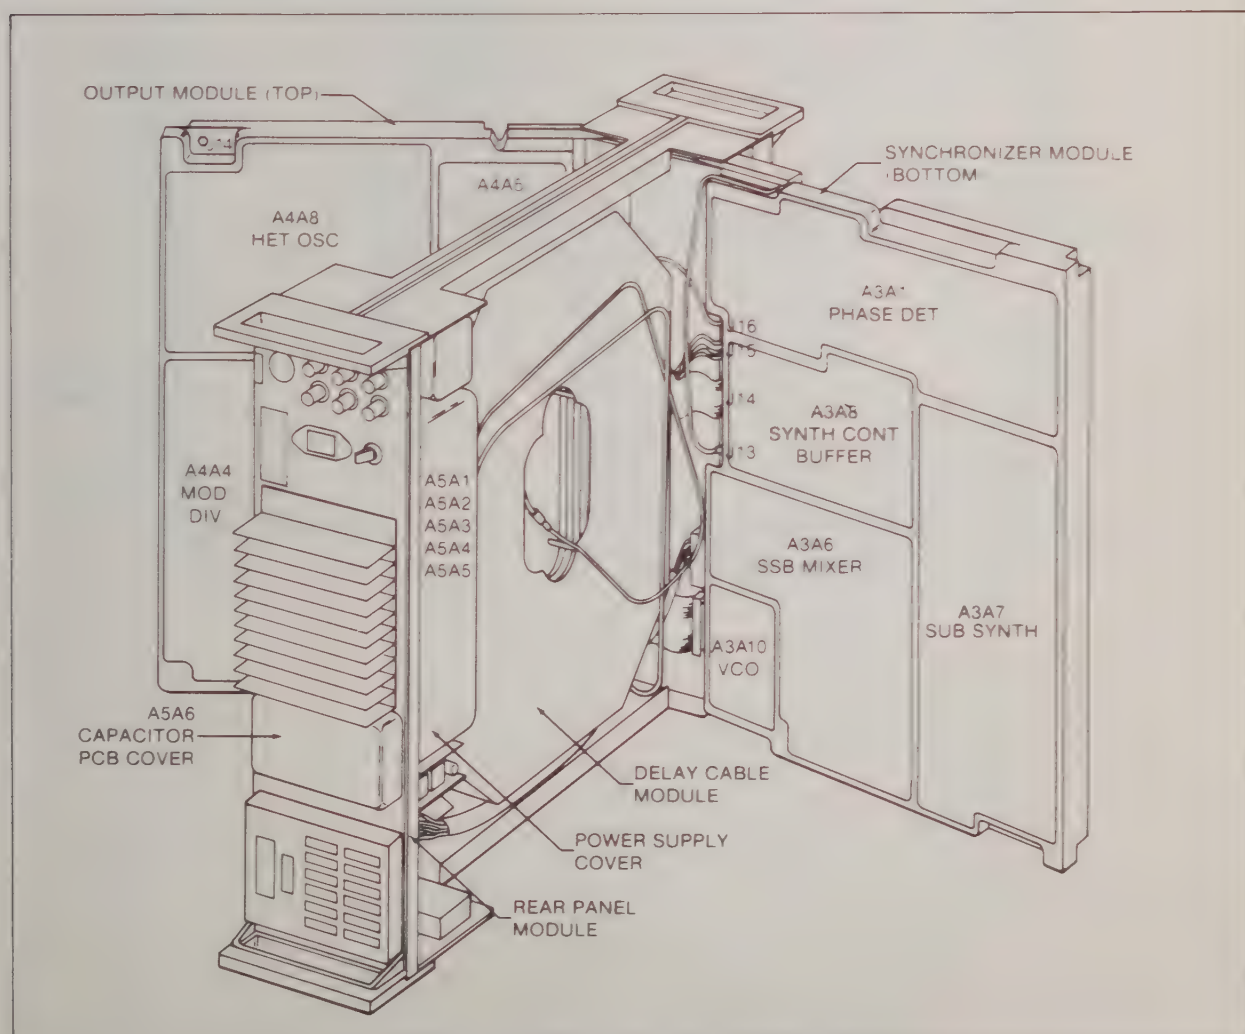
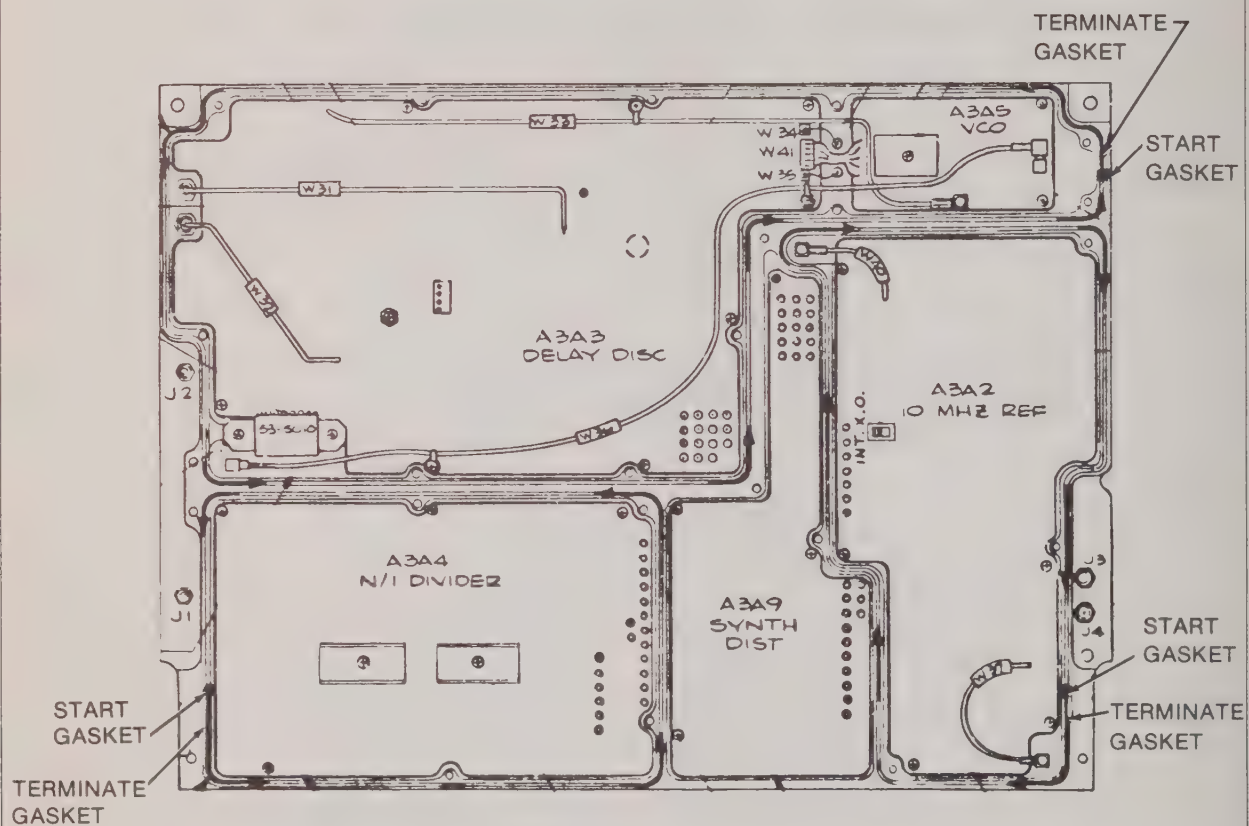
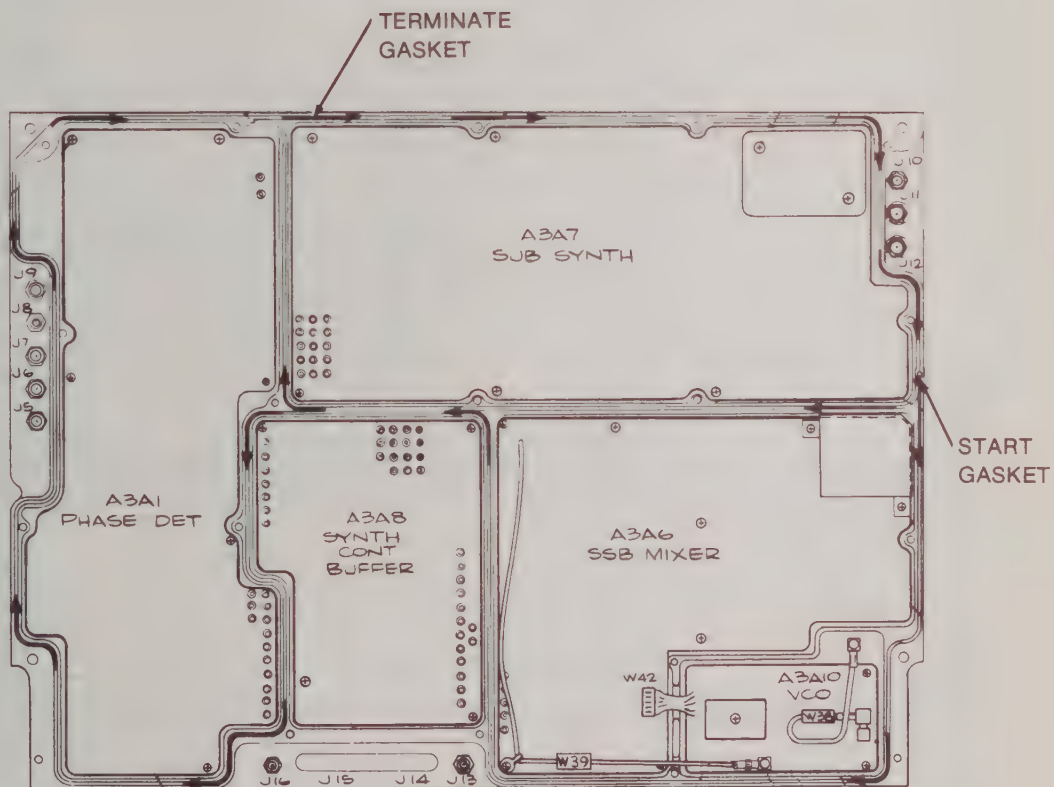
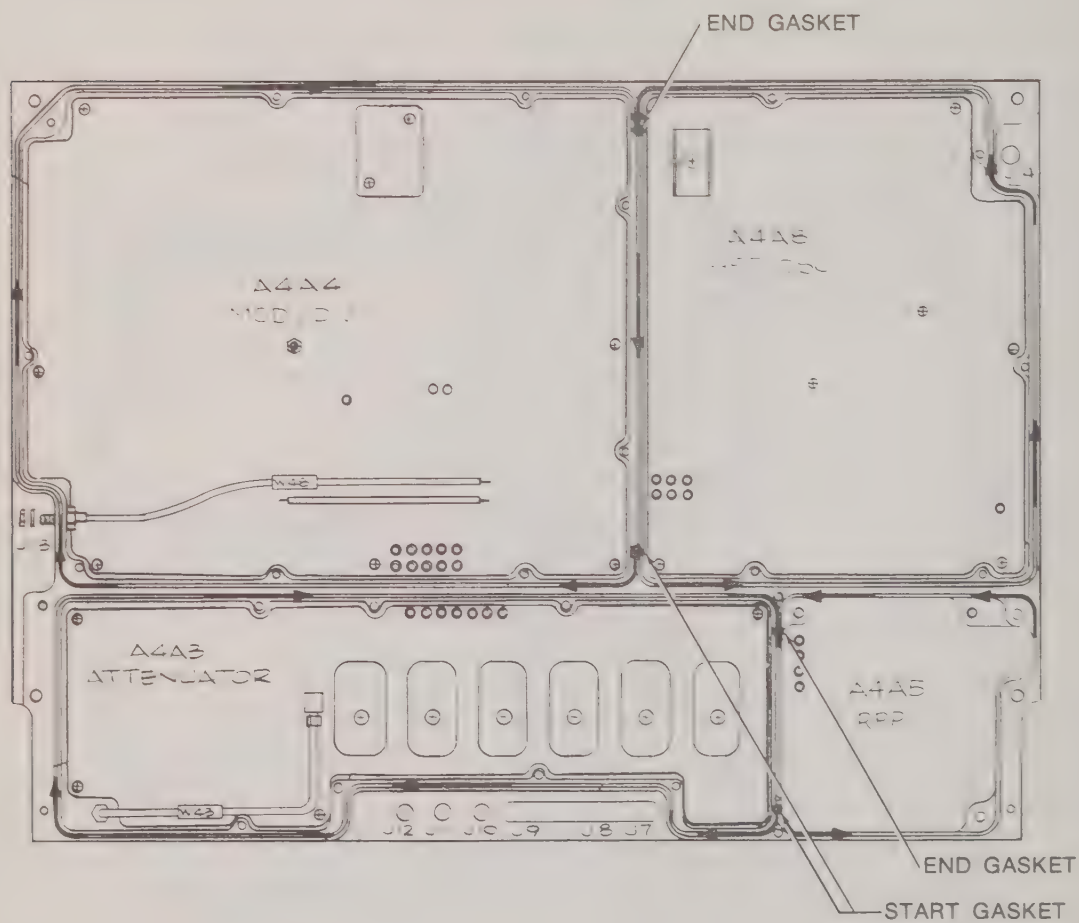

Figure 3-1. 6070A/6071A Opened for Maintenance
Figure 3-2. Top Synthesizer Module
Figure 3-3. Bottom of Synthesizer Module
Figure 3-4. Top of Output Module
3-4. The locations of the major assemblies of the 6070A/6071A are illustrated in Figure 3-1. The synchronizer module and the output module swing out from the center cable assembly. Circuit boards are located on each side of the synchronizer module and output module. Figures 3-2 and 3-3 illustrate the circuit board locations for the synchronizer module, and Figures 3-4 and 3-5 illustrate the circuit board locations for the output module. The 6070A and 6071A can be energized for maintenance purposes when opened up as shown in Figure 3-1.
1. Make sure that the RF gasket is in place. The gasket should start and end as shown in Figure 3-2. Inspect the RF gaskets for damage (areas that are folded over, worn, or pinched).
- a. Start the RF gasket at screw number 13 (Figures 3-2 and 3-6).
1. Make sure the RF gaskets are in place. The gaskets must start and end as shown in Figure 3-2. Inspect the RF gaskets for damage (areas that are folded over, worn, or pinched).
2. If the RF gaskets fall out, replace them as shown in Figure 3-2.
- c. The end of the gasket must continue past (overlap) the beginning of the gasket as shown in Figure 3-2.
3-28. The A3A1 Phase Detector PCB, A3A6 SSB Mixer PCB, A3A7 Sub-Synthesizer PCB, A3A8 Synthesizer Control Buffer PCB, and the A3A10 VCO PCB are located in the bottom of the Synthesizer Module (Figures 3-1 and 3-3). The access procedure allows access to the printed circuit boards for troubleshooting procedures. After the cover has been removed, the cover screws must be torqued back in place to insure specific RF integrity. Figures 3-3, 3-8, 3-9, and 3-10 illustrate the disassembly and assembly procedures.
1. Make sure that the RF gaskets are in place (Figure 3-3) and inspect the RF gaskets for damage (areas that are folded over, worn, or pinched).
a. Start the RF gasket at the appropriate START GASKET point shown in Figure 3-3.
b. Traveling in the direction indicated in Figure 3-3, press the gasket into the groove.
c. The end of the gasket should be at the TERMINATE GASKET point shown in Figure 3-3.